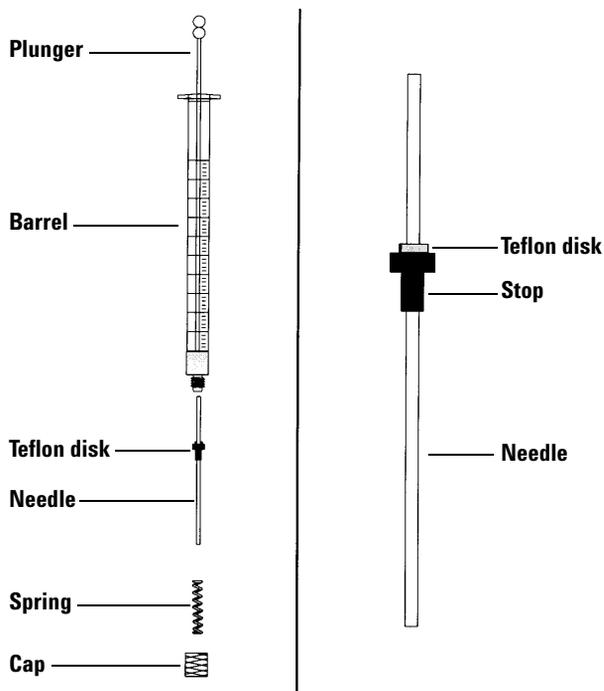

Figure 104 Syringe parts
To insert a needle into a syringe barrel (Figure 104):
- 2 Make sure the needle has a Teflon disk (Figure 104). If the syringe barrel does not have the Teflon disk, use the instructions in the syringe box to wrap the needle yourself.